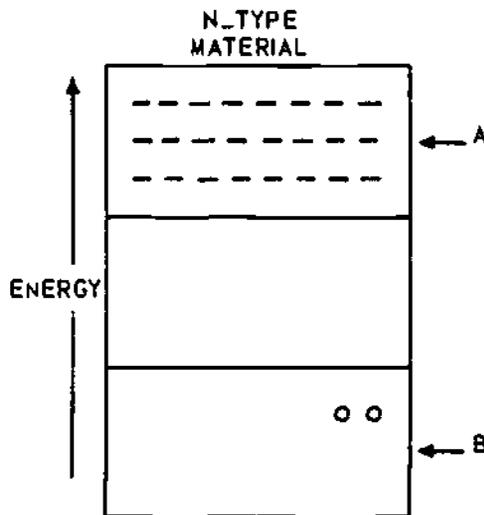

Figure 29-2. Energy Level Diagram
16. In figure 29-2, identify the carriers produced by heat and those produced by doping.